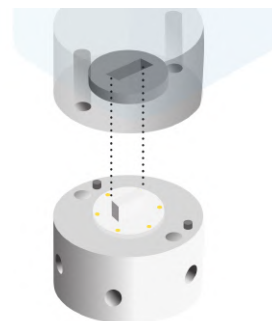

FIGURE 4.15 – Align the valve with the motor shaft
4. Align the new valve with the motor shaft (see Figure 4.15).